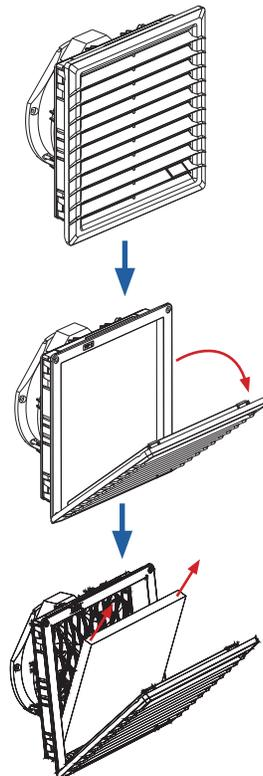

Figure 2
- Refer to Figure 2 for illustrated details.